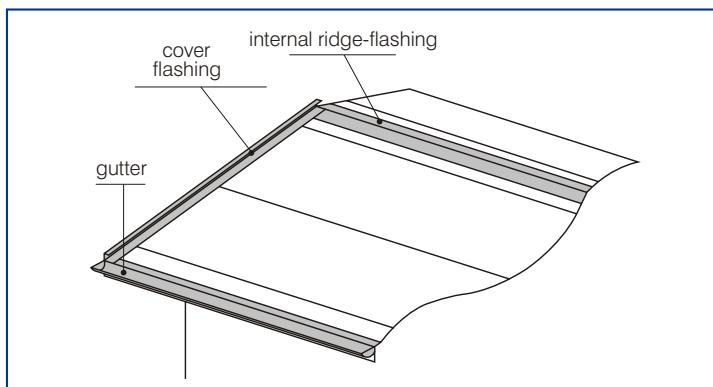

Fig. 9
- 4.1.4. When all the operations described in points 4.1.1, 4.1.2 and 4.1.3 have been carried out, the installation of flashings, ridge-elements, gutter and all the necessary gaskets below the panels can be started. (Fig.9)